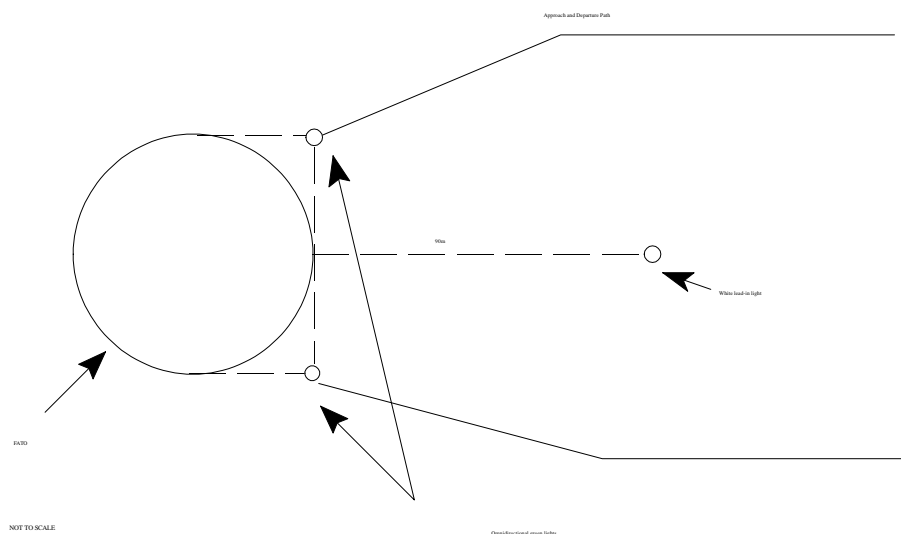

Figure 2
- C **Approach guidance** When it is considered essential that an accurate approach path be achieved due to obstacles, the direction of approach should be indicated by at least two omni directional green lights, or by one white lead-in light positioned as indicated in Fig 2.